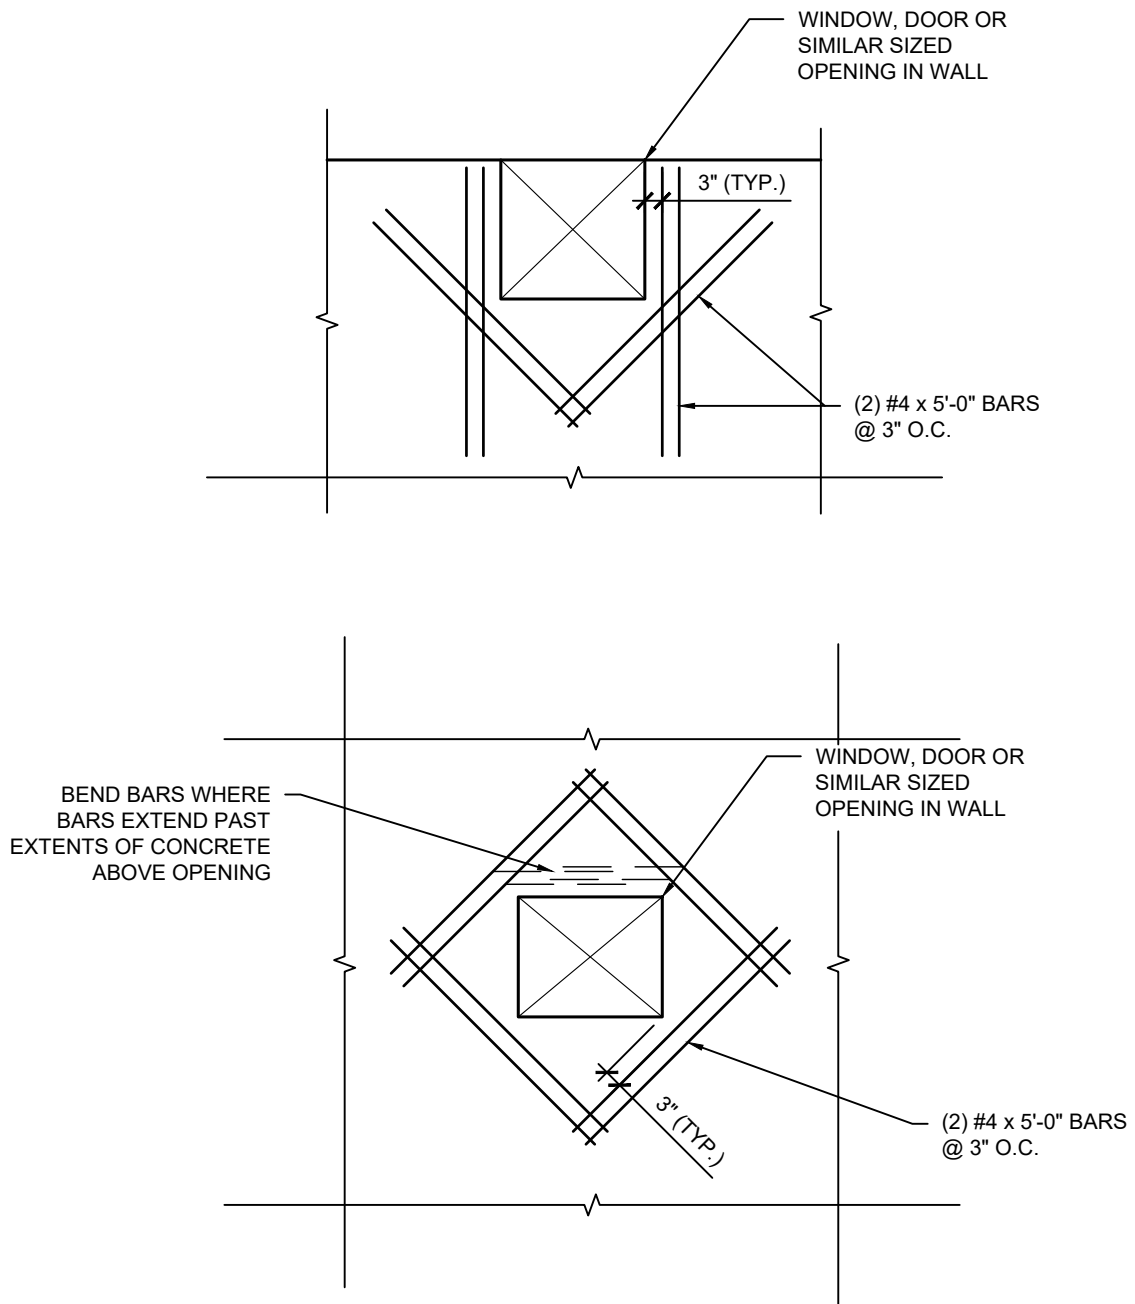

FIGURE 4B: REINFORCING @ WALL OPENINGS
- Refer to Figure 4B for reinforcing at openings in walls.
8. Refer to Figure 4B for reinforcing at openings in walls.